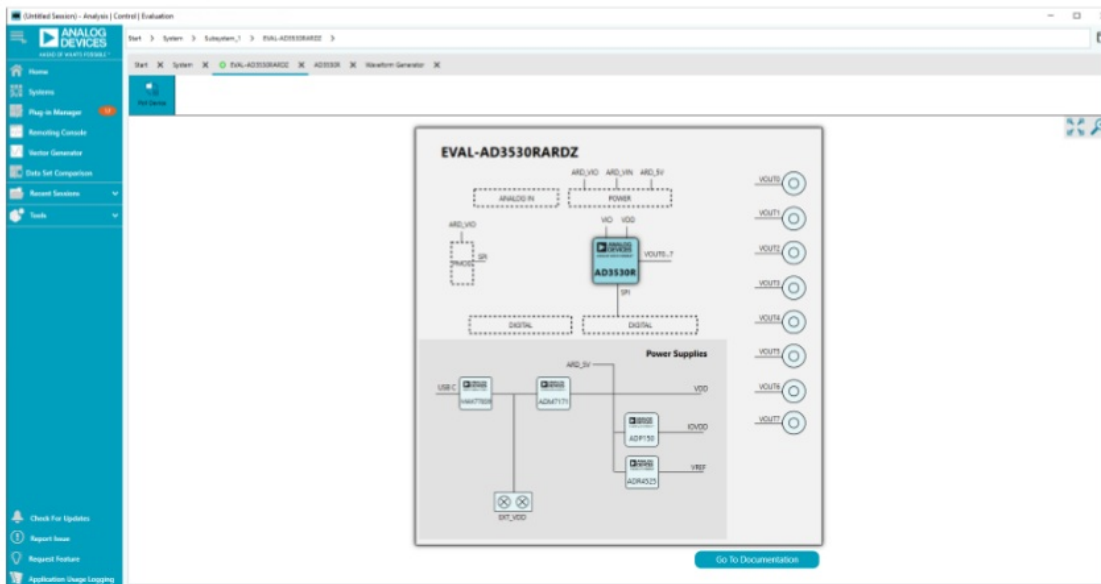
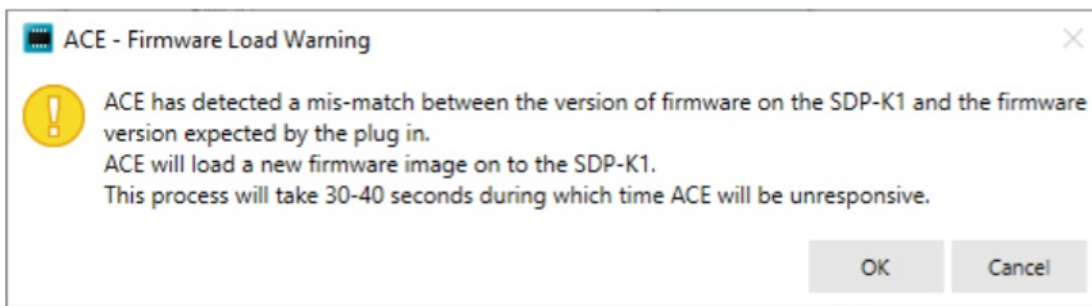

Figure 1. Board View of the EVAL-AD3530RARDZ
Figure 2. Firmware Loading Dialogue Box
3. Double-click the board plug-in to open the board view seen in Figure 1. When the correct firmware in the SDP-K1 controller is missing or does not match, a dialogue box shown in Figure 2 will pop-up and will give the option to flash the correct firmware. Press **OK** for initial setup. Press **Cancel** if the firmware has been loaded previously.